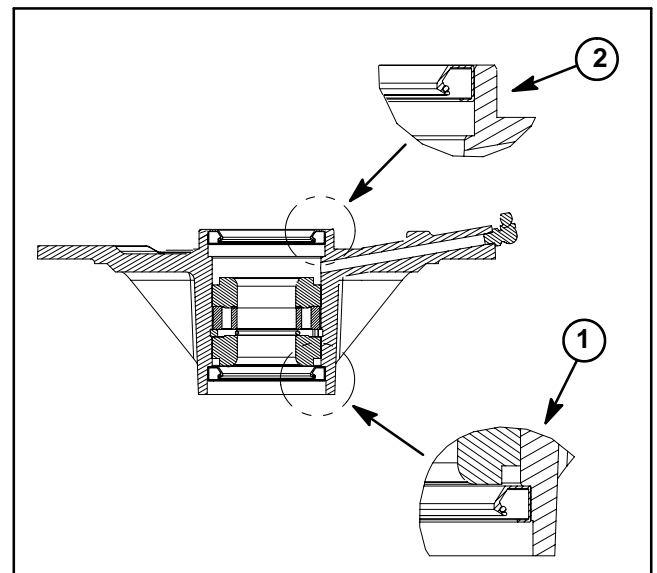

Figure 16
5. Install lower bearing cone and oil seal into bottom of spindle housing. **Note:** The bottom seal must have the lip facing out (down) (Fig. 16). This seal installation allows grease to purge from the spindle during the lubrication process.
6. Slide spacer ring and inner bearing spacer into spindle housing, then install upper bearing cone and oil seal into top of housing. **Note:** The upper seal must have the lip facing in (down) (Fig. 16). Also, upper seal should be flush or up to 0.060" (1.5 mm) recessed into housing.